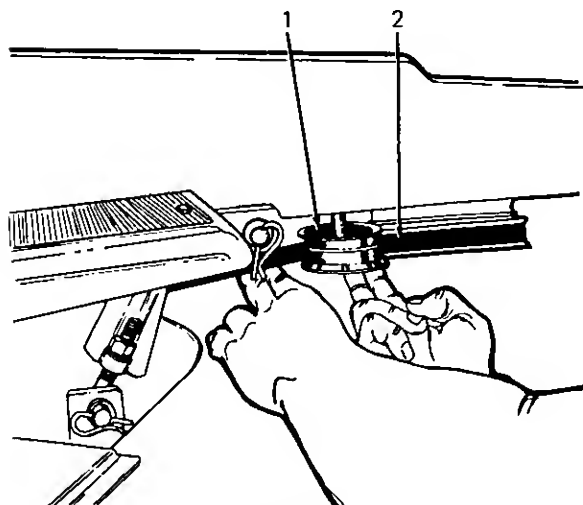

Figure 52.
4. Pull idler pulley away from the tractor and then place drive belt behind it. Release idler pulley. (See Figure 52.)